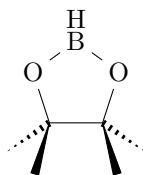

Figure 6.13: The hydroborate HBpin.
- Know HBpin (see Figure 6.13).